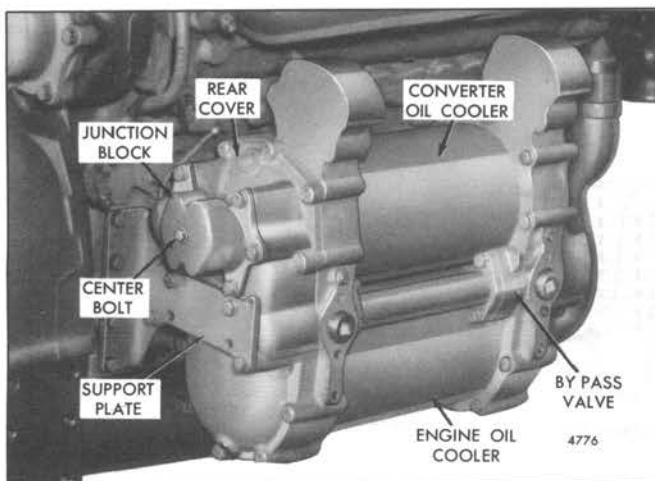

Fig. 11 - Single Tube-Type Oil Cooler Mounting
Certain engines are equipped with a tube-type oil cooler mounted on the side of the engine. Torqmatic converter units use a single basic oil cooler which consists of two sections; one section for the engine oil and the other section for the converter oil (Fig. 11). The Hydraulic Retarder units use a dual oil cooler of which one section cools the engine oil and three sections are used to cool the brake oil (Fig. 12).
A bypass valve (Fig. 11) is provided which will permit the engine oil to flow directly through the oil cooler should the oil filter become clogged.
8. On the single tube type oil cooler (Fig. 11), use a new gasket and attach the junction block to the oil cooler rear cover with six 3/8"-16 x 1" bolts and lock washers. Also install the 3/8"-16 x 2" center bolt and lock washer. Tighten the bolts to 30-35 lb-ft (41-47 N•m) torque.